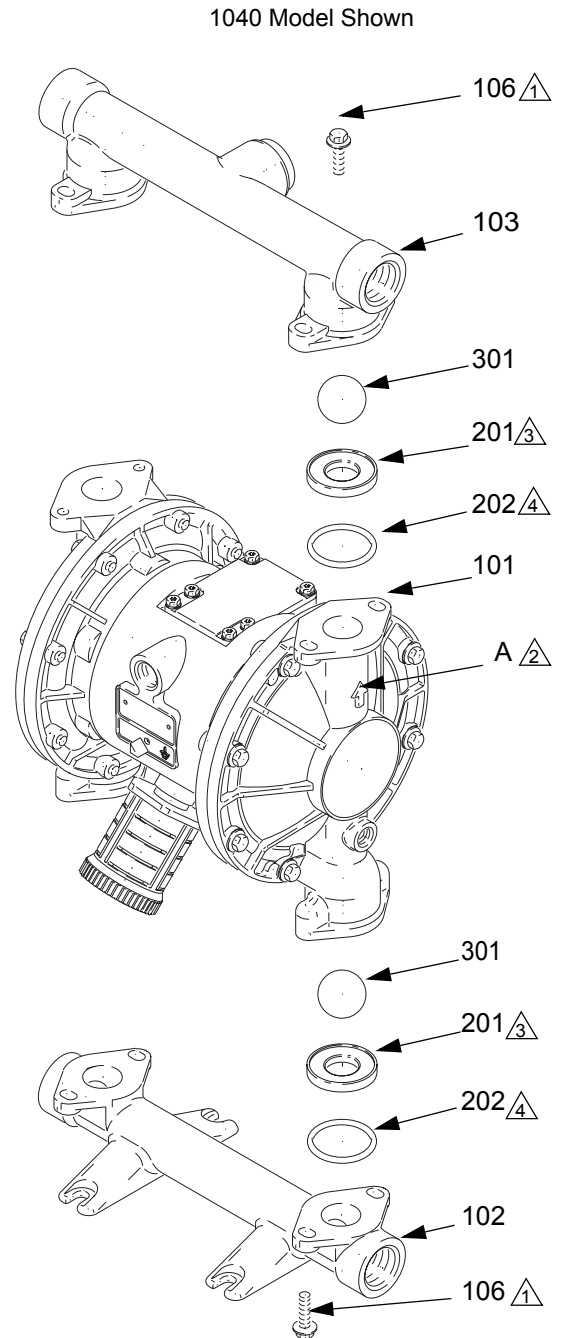

FIG. 1
3. Remove the bolts (106) holding the outlet manifold (103) to the fluid covers (101). See FIG. 1.
4. Remove the o-rings (202, not used on some models), seats (201), and balls (301) from manifold (103).
5. Turn the pump over and remove the inlet manifold (102). Remove the o-rings (202, not used on some models), seats (201), and balls (301) from fluid covers (101).
- ⚠ Arrow (A) must point toward outlet manifold (103).
- ⚠ Beveled seating surface must face the ball (301).
1. Reassemble in reverse order, following all notes in FIG. 1.
2. If o-rings (202) are used, replace with new ones to assure the pump will seal properly. Be sure the ball checks and manifolds are assembled exactly as shown. The arrows (A) on the fluid covers(101) must point toward the outlet manifold (103).